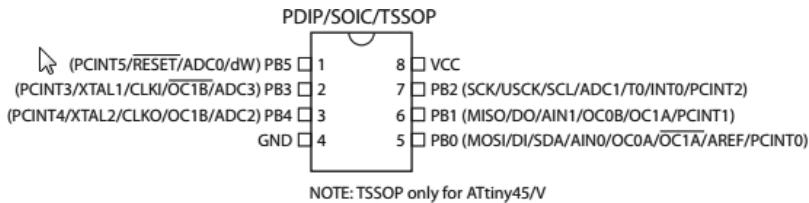

FIGURE 7-5 ATtiny85 pin assignments.
You are now ready to build the circuit that is actually used to program the ATtiny85 chip. Figure 7-5 shows the pin assignments for the ATtiny85 chip. Notice that the labels for the pins are a little strange, in that what is labeled as circuit pin 0 is actually physical pin 5 on the chip. It's very important not to confuse the physical pin position with the circuit pin position or you risk the
you connect the negative terminal to ground. Your connections should look similar to that shown in Figure 7-5.
2. Check the pin assignments in your program's source code. It's pretty easy to forget that you're not working with a full Arduino board and to assume that you can still blink the LED on pin 13 when no pin 13 exists. While such flat-forehead mistakes do happen, usually they become obvious and no harm is done to the chip. Still, keep Figure 7-5 and Table 7-2 in mind when you move sketches from the Arduino to the ATtiny85.